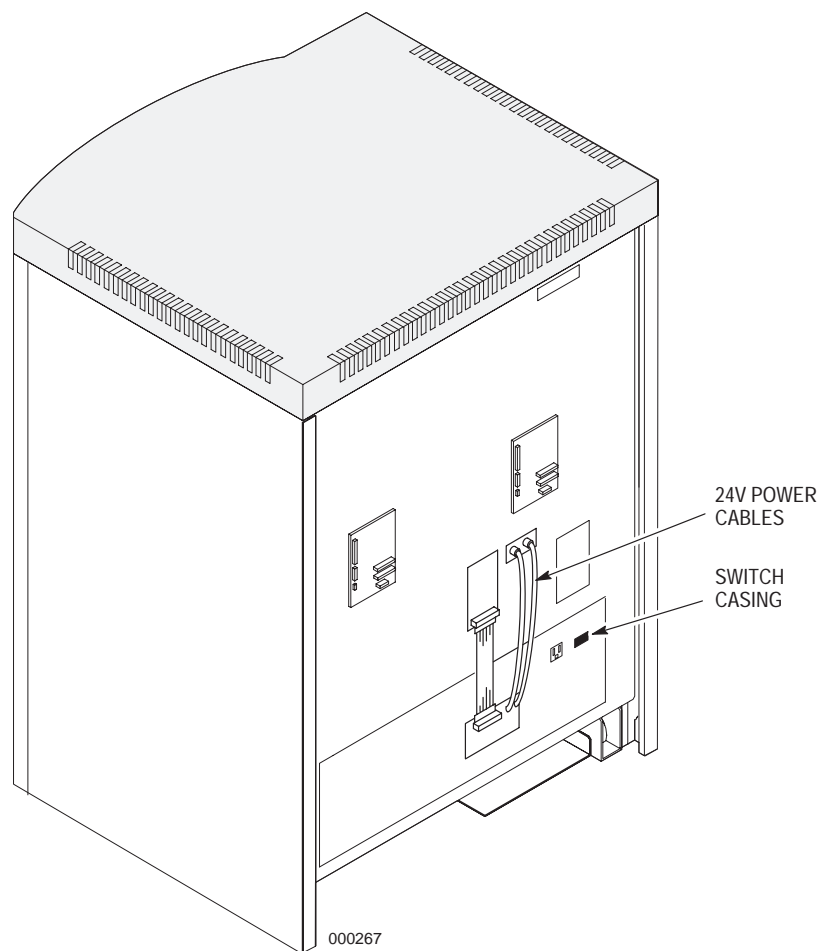

Figure 11-18. Power Connections to the Drive Backplane.
5. When the **ENTER BOOT COMMAND:** prompt appears, turn off the power to the server by switching the main-power circuit breaker on the back of the power-distribution tray to the OFF position (0).
8. Use a #2 Phillips screwdriver to remove the 24-volt power cables from the drive backplane connections, as shown in Figure 11-18.
19. From the rear of the cabinet, use a #2 Phillips screwdriver to connect the 24-volt power cables to the drive backplane connections (Figure 11-18).